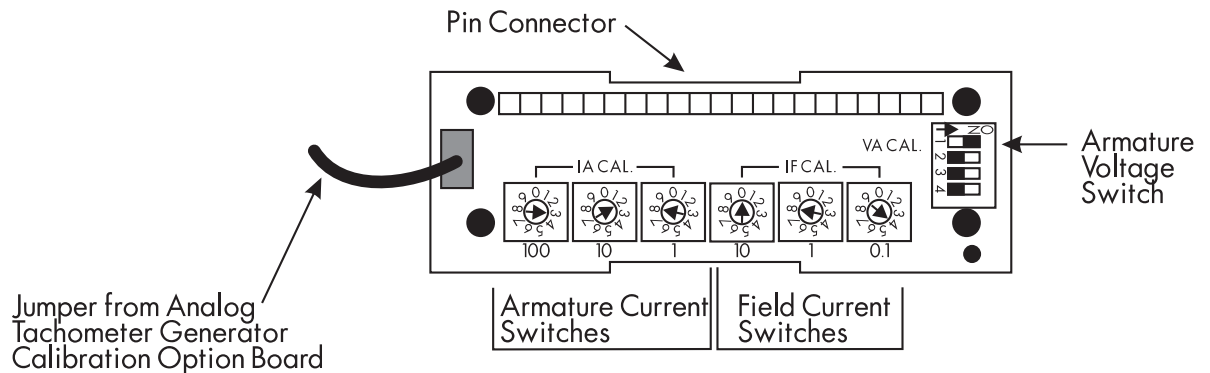

Figure 3.9 - Switchable Calibration Card
The switchable calibration card is shipped on all models rated through 400 HP. The card, shown below in Figure 3.9, calibrates the drive for the motor armature voltage, armature current, and field current.
2. Set the armature current to the motor's nameplate rating minus one (1) amp. Armature current is set in units of amps using the left three rotary switches for hundreds, tens, and ones. The range for these switches is from 1 to 720 amps. Turn the rotary switches to the appropriate settings for your motor. Figure 3.9 is set for a 329 amp motor.
3. Set the field current to the motor's nameplate rating. Field current is set in units of amps, using the right three rotary switches for tens, ones, and tenths. As with armature current, the range depends on the type of drive. The overall range is from 0.1 - 19.9A with 590 DRV Digital drive models. Turn the rotary switches to the appropriate setting for your motor. Figure 3.9 is set for a 8.4 amp field. Use SETUP PARAMETERS:: CALIBRATION:: FIELD I CAL in the MMI.